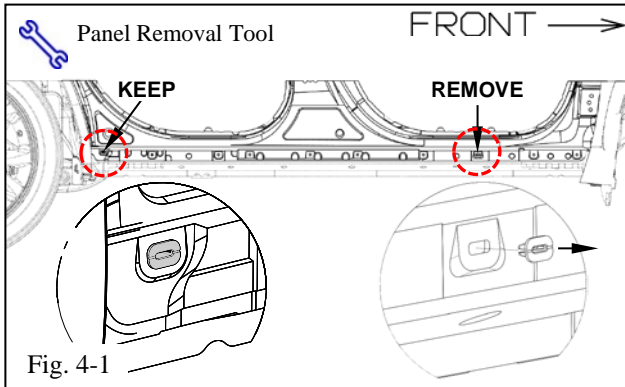

Fig. 4-1
- (a) Remove and discard the front plastic nut from the rocker panel (Fig. 4-1).